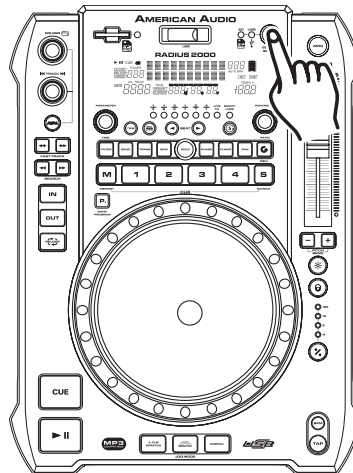

Figure 5
2. SELECTING YOUR AUDIO SOURCE - Figure 5